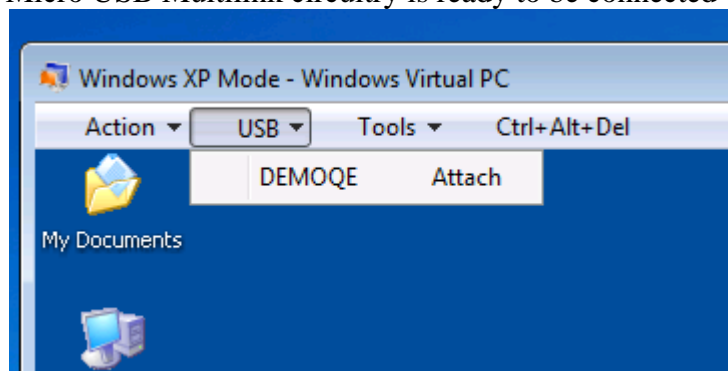

Figure 1.
After installation classic CodeWarrior product within Windows XP mode, you can attach your USB debug pod into the host PC's USB port. Windows will inform you that it has detected a new USB device and will find the proper driver and install it, as a normal Windows XP machine would deal with P&E Micro USB pod when it's being used first time. After driver being installed ok, you should attach the USB debug pod into Windows XP virtual machine. Figure 1 shows a DEMOQE board which has P&E Micro USB Multilink circuitry is ready to be connected – “Attach” to the Windows Virtual PC:
- 2> If your USB device is not detected by Windows XP, try un-plug it and re-plug it into a different USB port on your host PC. You have to see something like shown in Figure 1 to ensure that your USB debug pod is recognized properly within Windows XP virtual machine.